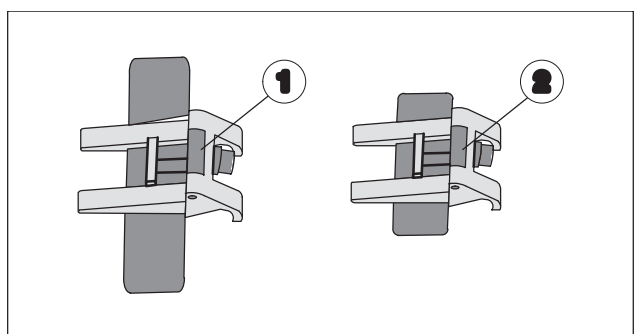

Fig. 58 Sensor shoes
- With a sheet width greater than 180 mm, use the wide sensor shoe (Fig. 58/1).
- With a sheet width less than 180 mm, use the narrow sensor shoe (Fig. 58/2).